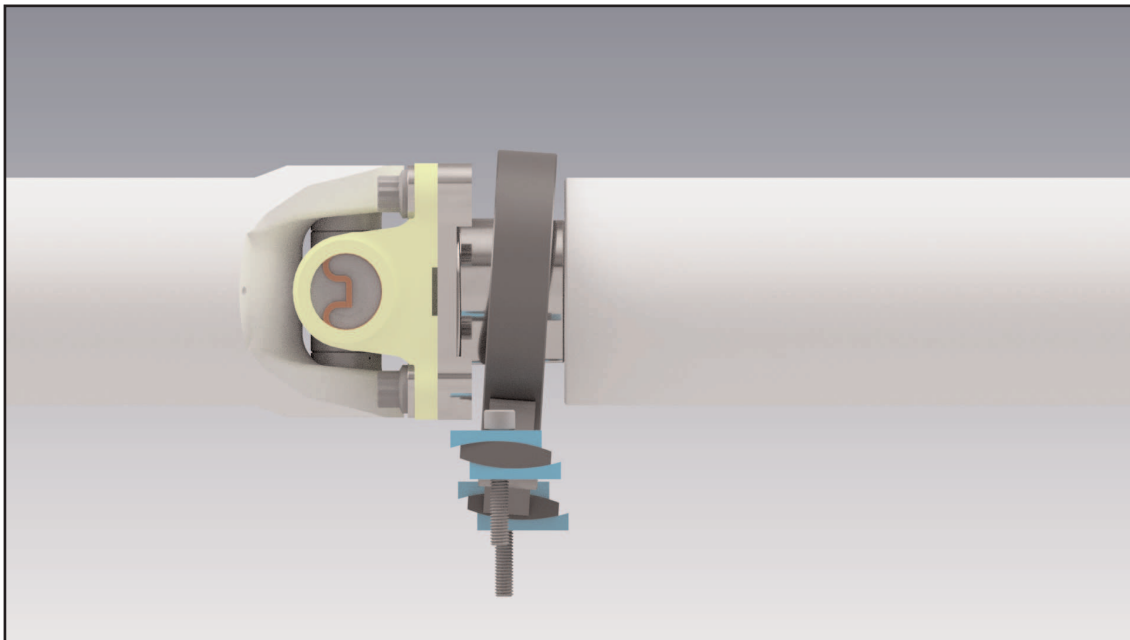
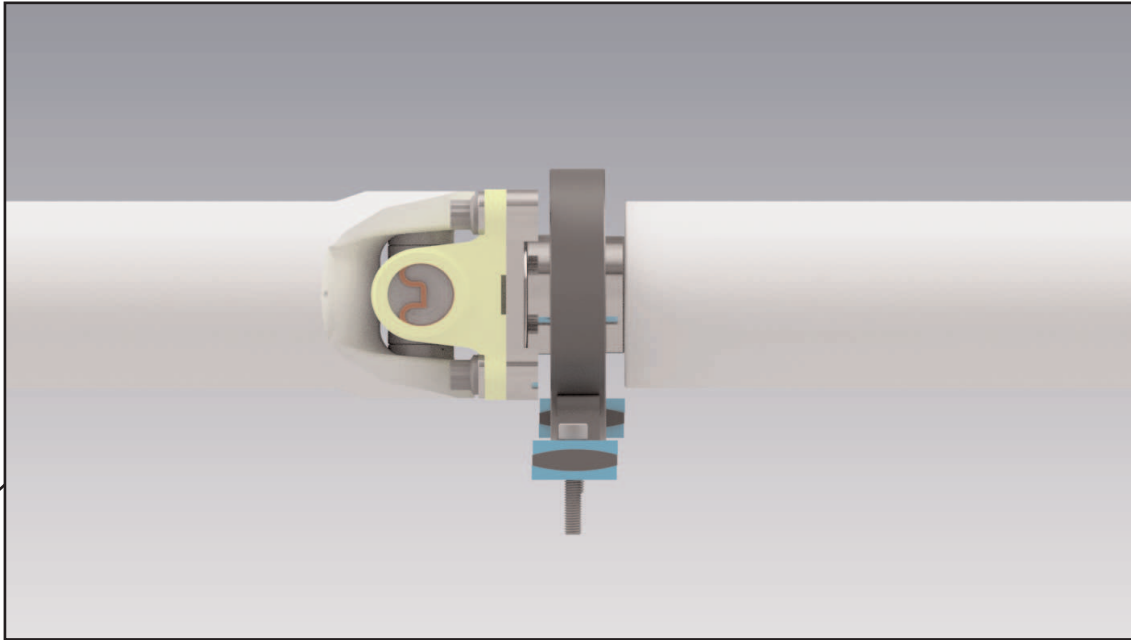

Figure 1: Misaligned Center Support
Figure 2: Aligned Center Support
- 2) Adjust center carrier bearing support along the feet radii so that the face of the outer ring (MWS-675) is parallel to the face of the driveshaft tube when viewed from the top. Figure 1 below shows a misaligned center support, see Figure 2 for the correct orientation of the center support